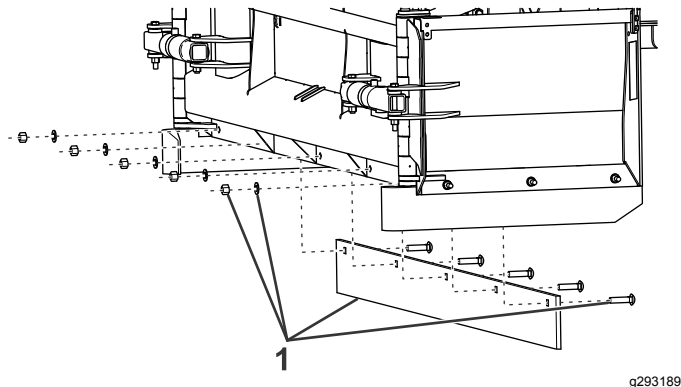

Figure 1
3. Remove the bolts, washers, and nuts securing the cutting edge to the plow and discard them (Figure 1).